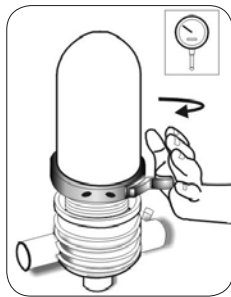

Figure 1
- Release the clamp and remove the cover (Figure 1).